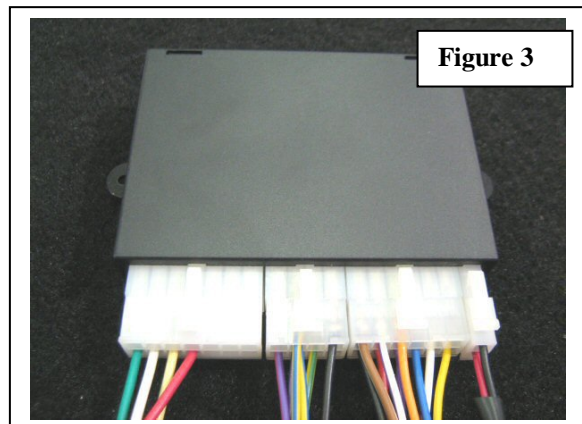

Figure 3
- 1.  Plug the **Main Wiring Harness, Switch Harness, and Pedal Interface Harness** in to the mating connectors of the Cruise Control Module. **Figure 3**